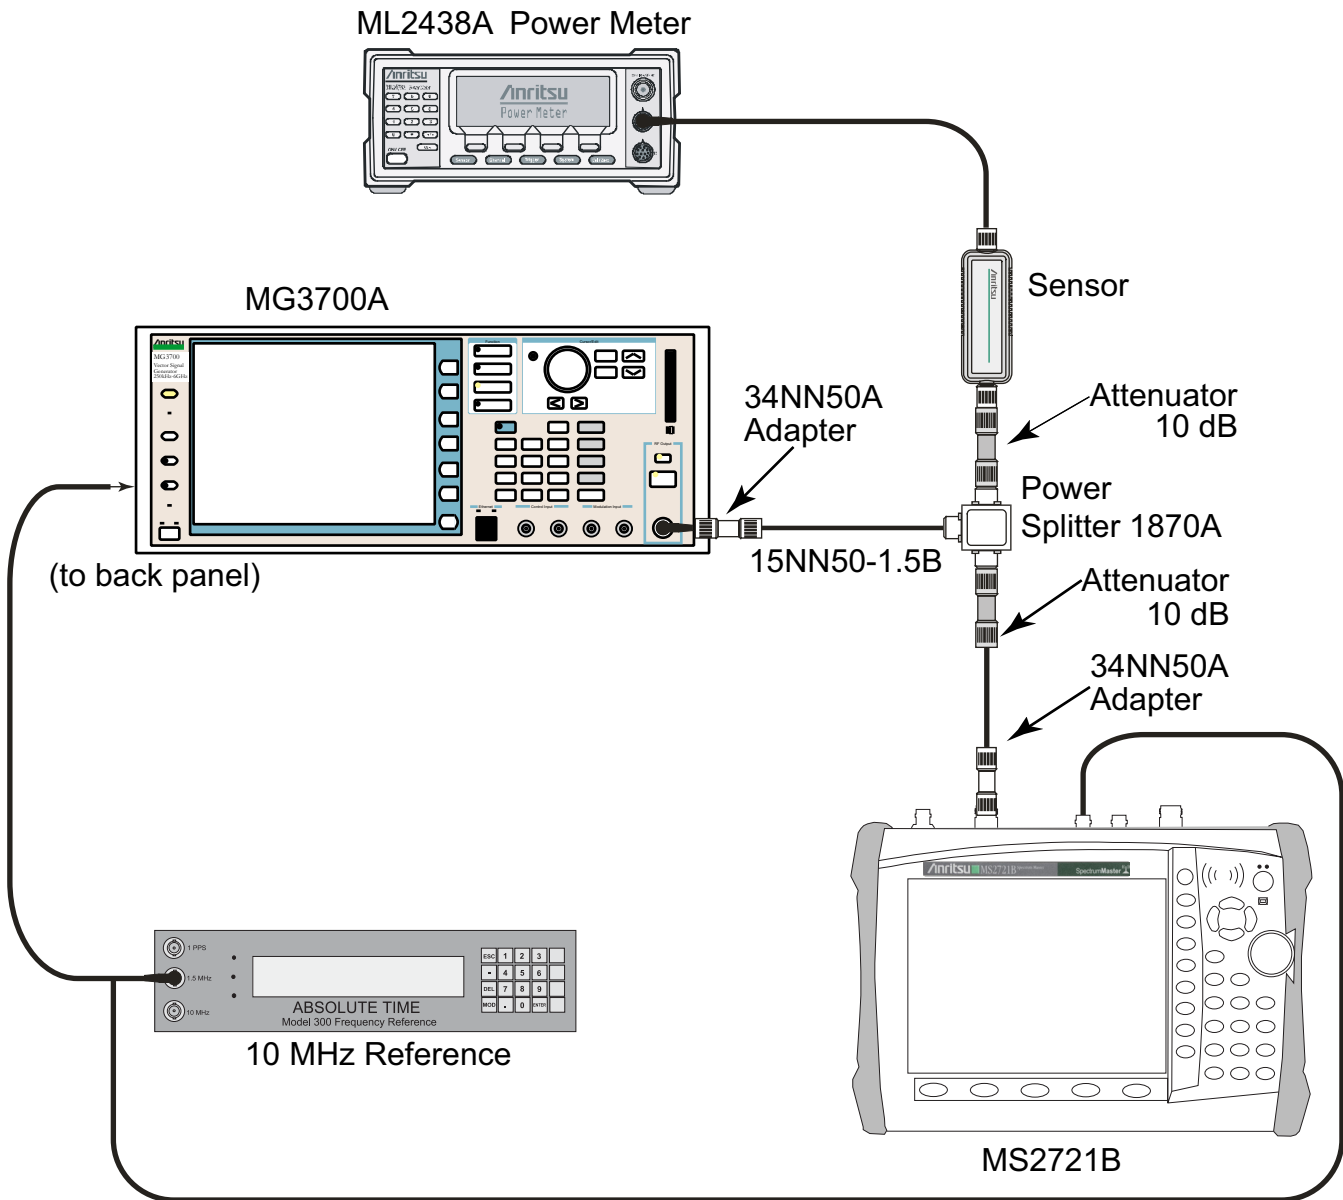

Figure 3-17. Fixed WiMAX Signal Analyzer Test Setup
3. Connect the Power Sensor, 1870A splitter, and 10 dB attenuators (quantity 2), as shown in Figure 3-17.
3. Connect the Power Sensor, 1870A splitter, and 10 dB attenuators (quantity 2), as shown in Figure 3-17 on page 3-60.